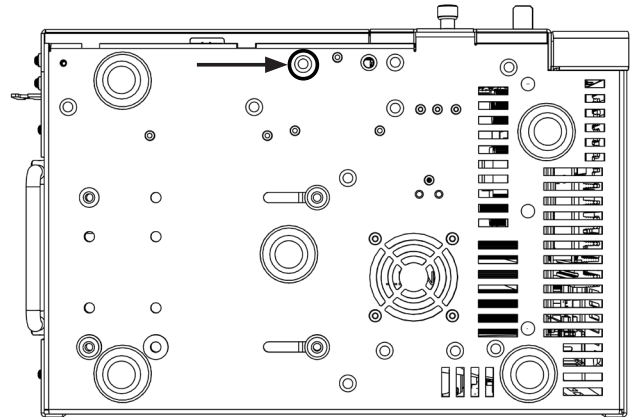

Fig. 2-2, Security Screw Mounting Location
1. Locate the security screw mounting location on the XM3.1-HP power supply (see Fig. 2-2).